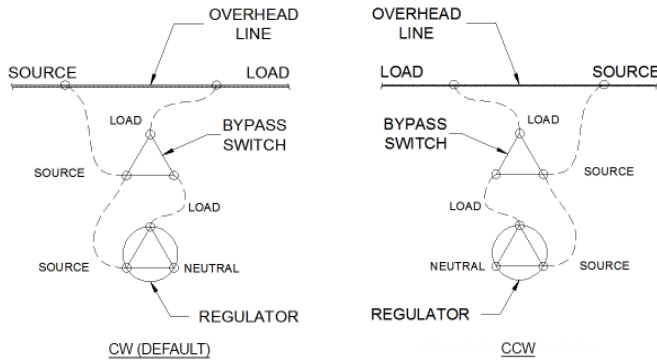

Figure 2: NBS Connection Diagram
- Load/Source Disconnect Position (See Fig. 2): CW (Default) CCW N/A